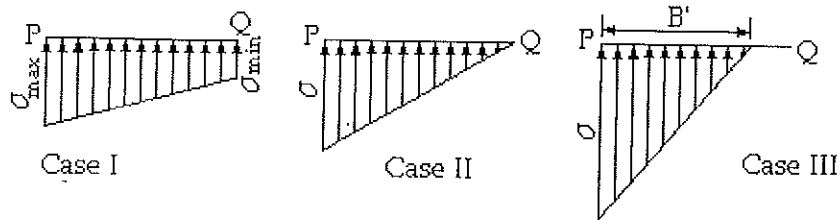

Fig. B6d
- d. Fig. B6d represents these configurations of bearing pressure exerted on the base of a gravity retaining wall. Discuss how each distribution is caused. (4 points)